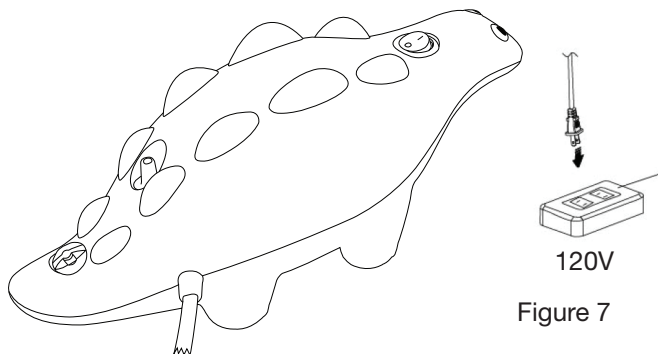

Figure 7
1. Take the power cord and plug into an electrical outlet. (Figure 7)